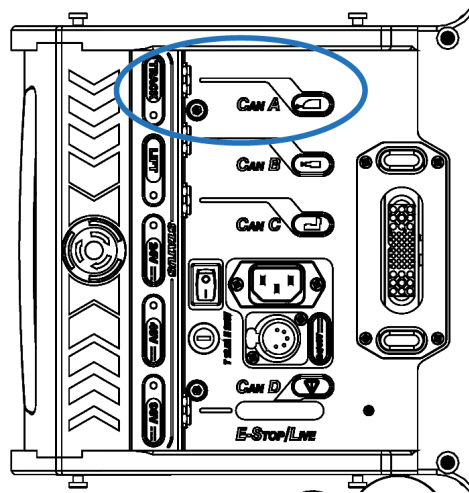

Figure 20 - CAN A Input on FRU
5. Connect the BPS CAN cable to the CAN A input on the FRU. Refer to **Figure 20**.